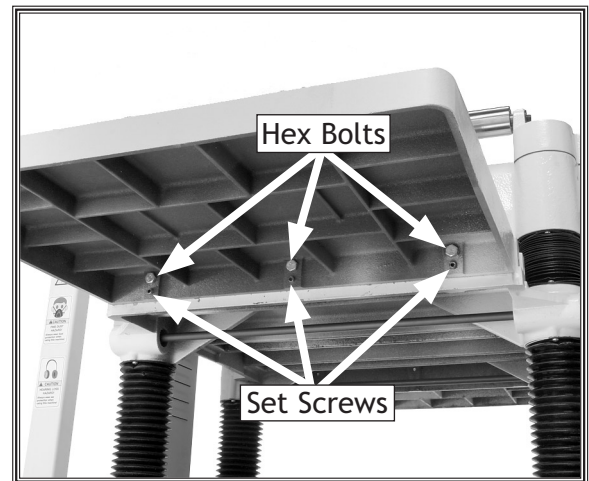

Figure 4. Extension wing fasteners and leveling controls.
1. With the help of an assistant, attach the table extension wings to the planer table (**Figure 4**) with the M8-1.25 x 25 hex bolts. Finger tighten the bolts for now.
2. Install the M8-1.25 x 20 set screws (**Figure 4**) in the holes in the bottom of the wings.